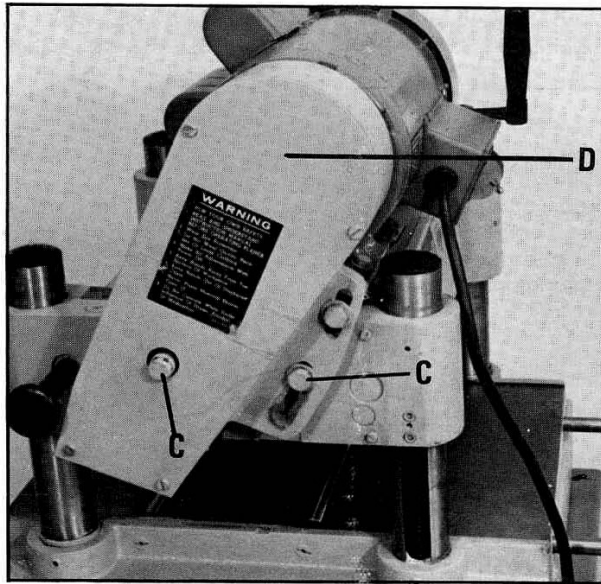

Fig. 48
3. Loosen two screws (C) Fig. 48, and tilt motor assembly (D) to the front as shown.